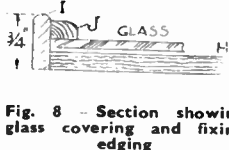

Fig. 8—Section showing glass covering and fixing edging
Then, to hold the glass securely in place, as well as to strengthen the framing, a beading of small section wood is mitred and glued round above the glass. In Fig. 8 we see a section through the table top. Here (H) is the plywood back, (I) the mitred edging and (J) the top inner beading. The glass is here shown lifted away from the plywood to make room for the decorative overlay on the backing.
We give in Fig. 8 a simple method of making the table top. First a square of  $\frac{1}{2}$  in. plywood is cut 1ft. 8 $\frac{1}{2}$ ins., and the rough edges carefully and thoroughly cleaned. Around this is then nailed an edging of  $\frac{3}{8}$  in. by  $\frac{1}{4}$  in. or  $\frac{3}{8}$  in. hardwood with the top edge rounded nicely and made smooth. If anything in the way of embroidery or a thin wood overlay is to be the decoration, then this is laid on the polished plywood and a sheet of glass laid over it. This glass is cut to the same size, of course, as the plywood.